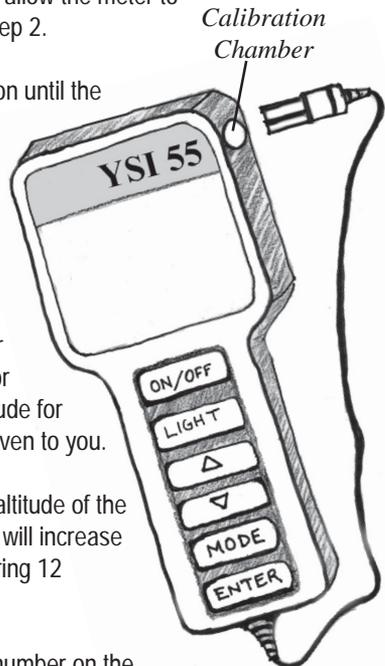

Figure 3-8: YSI 55
2. Press and release the mode button until the display reads in % (Figure 3-8).
3. With the probe in the calibration chamber simultaneously press and release the two arrow keys (Figure 3-8).
1. Remove the probe from the calibration chamber (Figure 3-8).